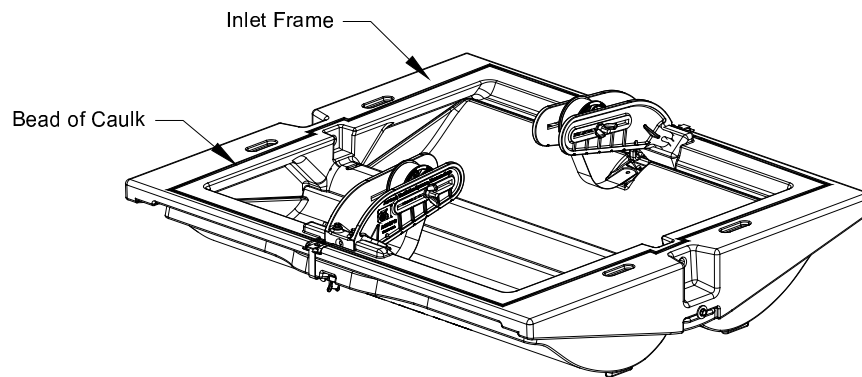
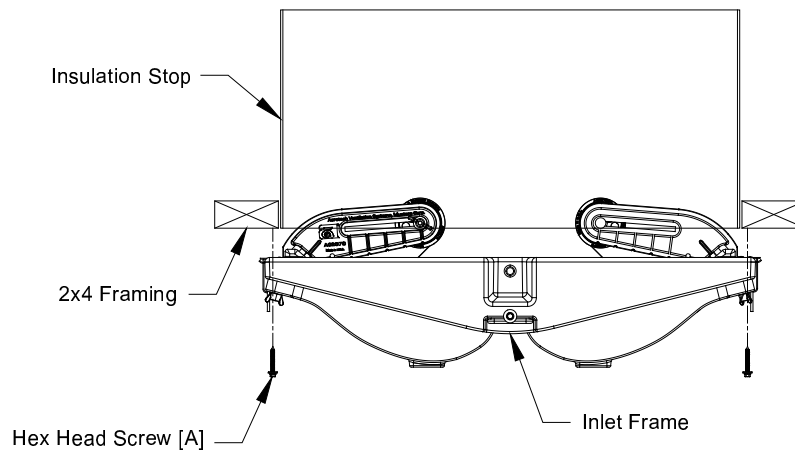

Figure 5A
Figure 5B
Apply bead of caulk around top of inlet as shown in Figure 5A. Position inlet into framed opening and attach inlet using (8) Hex Head Screws [A] provided. See Figure 5B. Be careful not to over tighten as this may pull the Inlet Frame out of shape.